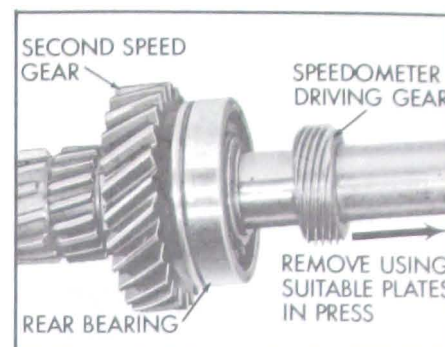

Figure 4-26—Removing Speedometer Driving Gear
1. Remove speedometer drive gear with plates. See Figure 4-26.
3. Install the idler shaft, making sure the lock pin hole in the shaft lines up with the hole in the case at the same angle. See Figure 4-26.